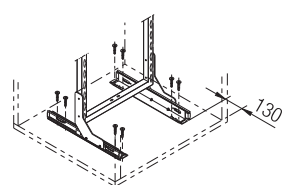

Fig. 5
5. Screw the Assembly onto the Cabinet as shown in Fig. 5.